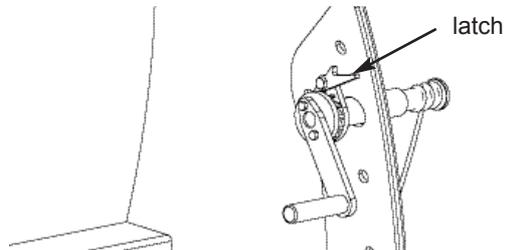

Figure 8 - Crank lock latch
1) Once the lock latch has been released, loosen the side turnbuckles which hold the tray by turning both cranks as shown in Figure 8. The tray should touch the ground.